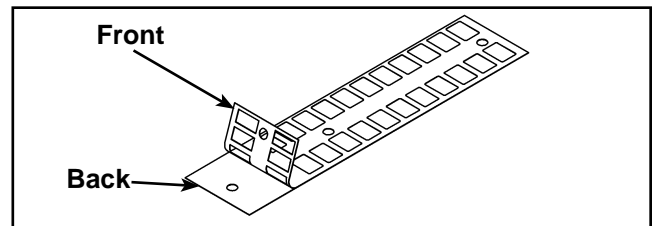

Figure 19
- A. Slowly and carefully peel off back side of decal. See Figure 19. **NOTE:** When peeling off back cover, make sure that the decals remain attached to the front sticker.